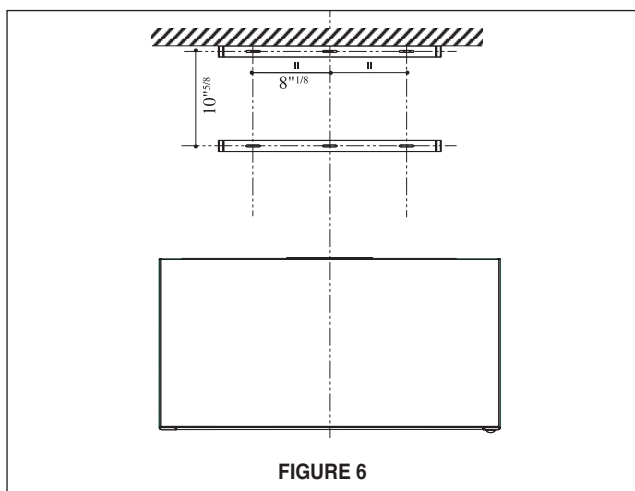

FIGURE 6
4. The **Telescopic Chimney Kit** and **Full Width Duct Cover** use different bracket systems to attach to the wall. **FIGURE 6** provides the position for the telescopic chimney brackets.